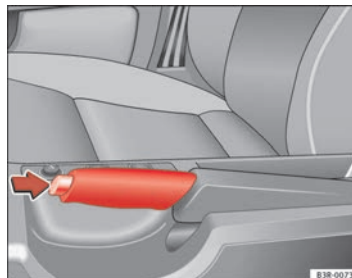

Fig. 140 Detail of the centre console: Handbrake applied
- Pull the lever up slightly and *at the same time* press in the release button ⇒ **fig. 140 -arrow-**.